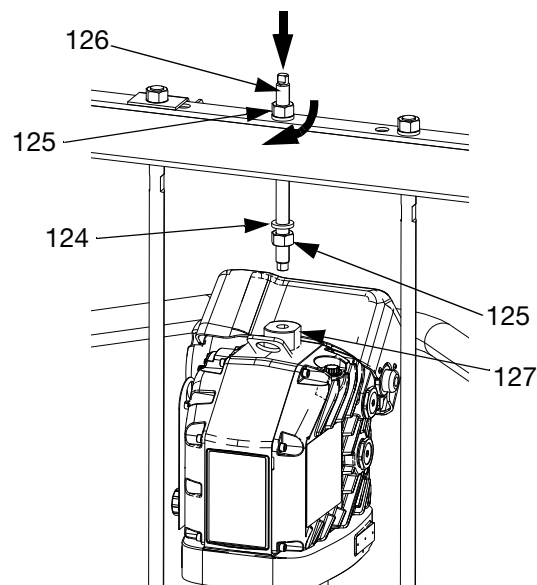

FIG. 43
1. Using a capable hoist, insert tie rods into the Displacement Pump (AC) and secure the Driver (AB) to the Pump (AC).
- b. Install threaded rod (126) through center hole in the crossbar. Install lock washers (124) and nuts (125) onto threaded rod (126), both above and below crossbar. Use wrench to hold lift ring adapter (127) and tighten threaded rod (106) into lift ring adapter (127) using another wrench. See FIG. 43.
- c. Tighten nut (125) below crossbar to 25 ft-lb (34 N•m) maximum.
- d. Tighten nut (125) above crossbar to lock Driver (AB) in place.